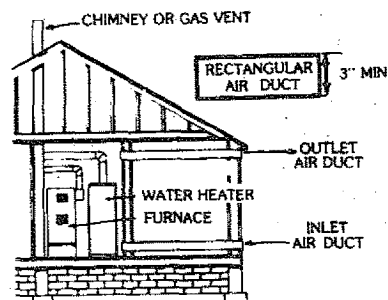

Figure 5
3. When communicating with the outdoors through horizontal ducts, each opening shall have a minimum free area of 1 square inch per 2,000 Btu per hour of total input rating of all equipment in the enclosure. (See Figure 5.)
4. When ducts are used, they shall be of the same cross-sectional area as the free area of the openings to which they connect. The minimum short side dimension of rectangular air ducts shall not be less than 3 inches. (See Figure 5.)